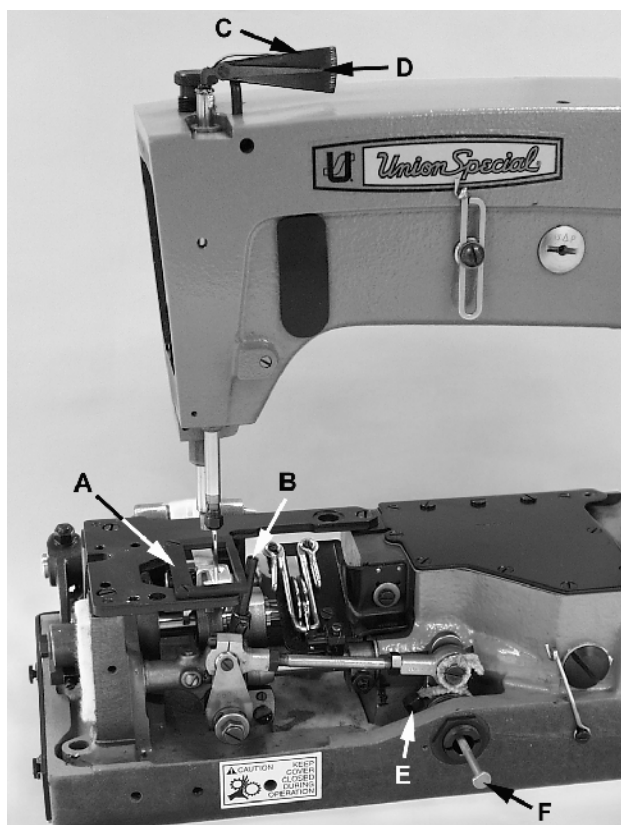

Fig 3
Remove the throat plate, feed dog, looper and needle thread take-up wire, (also called strike-off wire). Fig 3 Using gauge set TT34, attach the synchronizing plate (A) to the throat plate support with the throat plate screws. Insert the pin (B) into the hole for the looper and tighten with its screw. Turn the handwheel in operating direction, (towards the operator), until the pin lightly touches the right edge of the synchronizing plate. Insert the indicator (C) into the hole for the needle thread take-up wire, and move it up or down until the pointer (D) on the indicator reads at "0", and then tighten the screw. Now turn the handwheel in opposite of operating direction (away from the operator), until the pin again lightly touches the right edge of the plate. If the machine is synchronized the pointer on the indicator should again read "0". If the pointer is above or below the "0", the machine is out of synchronization. A variation of one line is allowable.